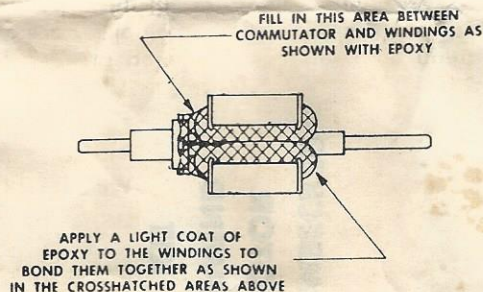

FIG. 2 - EPOXIED ARMATURE DIAGRAM
6. The winding of the armature is now completed. When the motor is properly assembled, with the armature wound as just described, the motor will run at a speed in the area of 40,000 to 50,000 RPM at 12V DC with no load. This extremely high speed will cause tremendous centrifugal force to be exerted on the armature windings and commutator segments. For this reason and to ensure top performance with maximum reliability, we suggest that the armature windings and commutator connections be epoxy-coated. Any good grade of epoxy cement (generally a two tube kit type epoxy cement will do) is acceptable. Follow the mixing instructions exactly as specified on the package. Figure 2 shows those areas on the commutator which should be epoxy-coated and this illustration should be followed exactly. Use a small stiff brush to force the epoxy into the windings so that all windings will be bound tightly together as one solid mass. Be extremely careful not to get epoxy on the armature shaft, commutator segments or outer surfaces of the armature poles. Allow several hours for the epoxy to dry thoroughly before running the motor.